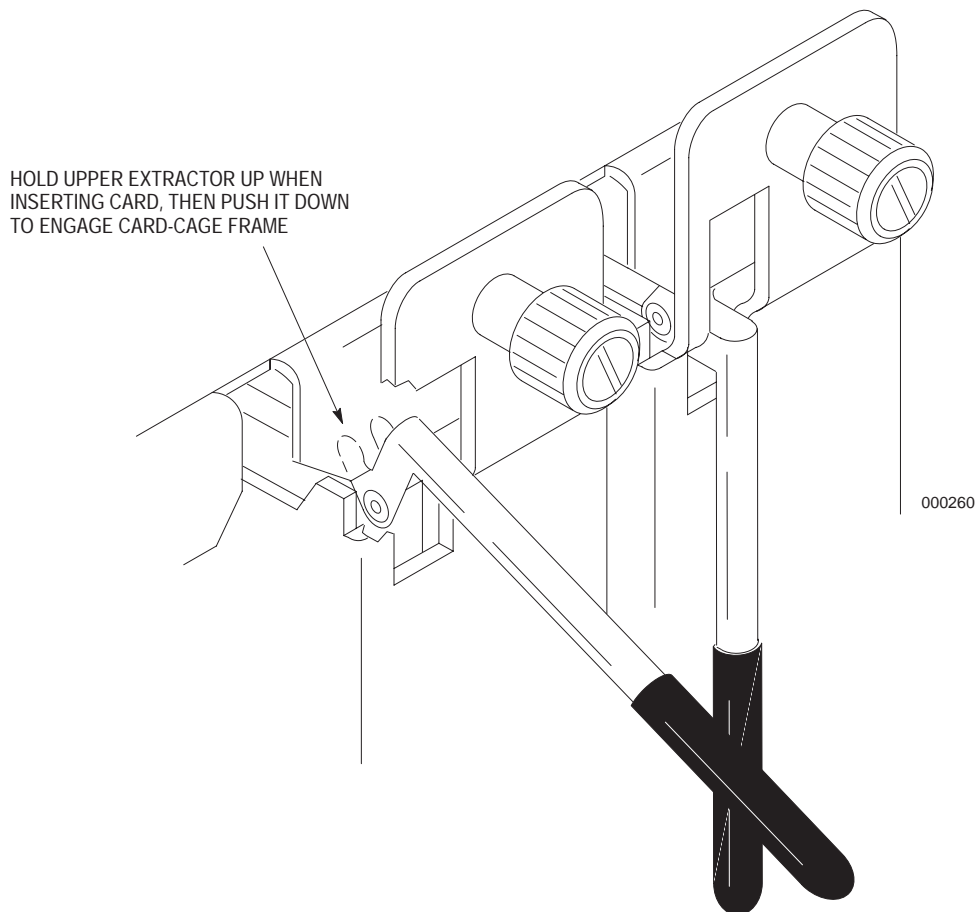

Figure 11-2. Engaging Card Extractors.
- c. Use the card extractors to apply pressure on the outer edges of the board to make sure that the card is correctly seated in the backplane. Refer to Figure 11-2.